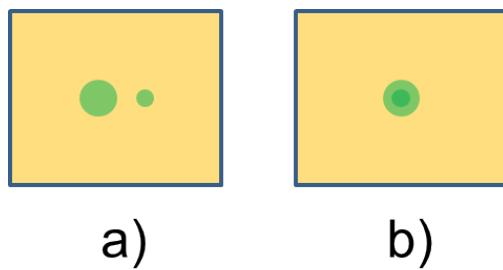

Figure 5.7.: Pump beam back reflections from the crystal.
- For fine alignment place an alignment aperture at position A11 in front of M4. The back reflection from the front and the back face of the crystal should be visible as small and bigger spot (Fig. 5.7 a) and overlap (Fig 5.7 b). Place the alignment aperture at position A9 in front of M3 and check the overlap again.